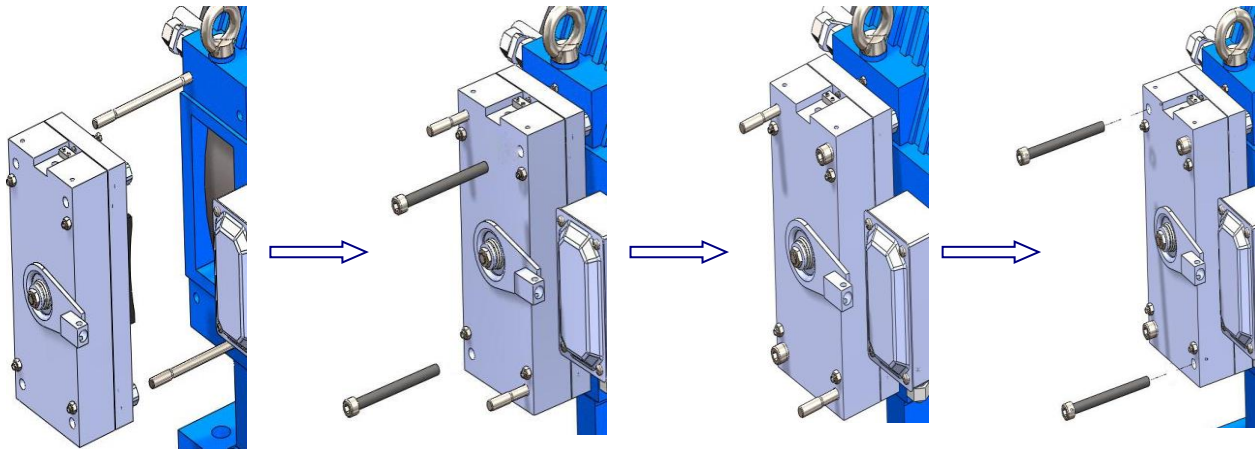

Figure 20: Brake installation
2. Install the double end guide bolts (M10x2x160) into opposite holes of the brake frame as show in Figure 20. Then position the new brake on the guide bolts.